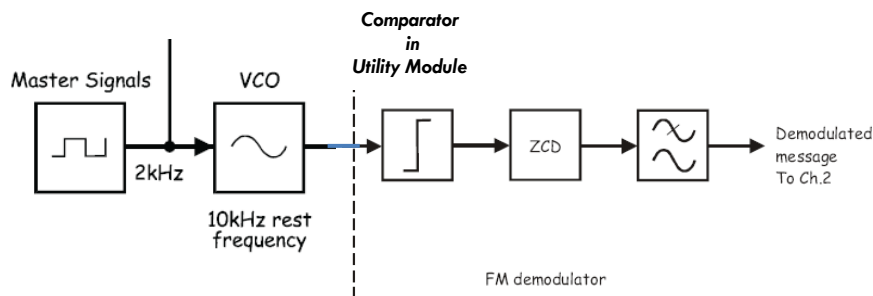

Figure 7.3 Zero-crossing detection FM signals
The zero-crossing detector is a simple yet effective means of recovering the message from FM signals. The block diagram is shown in Figure 7.3.
- Connect the set-up as shown in Figure 7.3. Use the comparator available in the utility module followed by the ZCD.